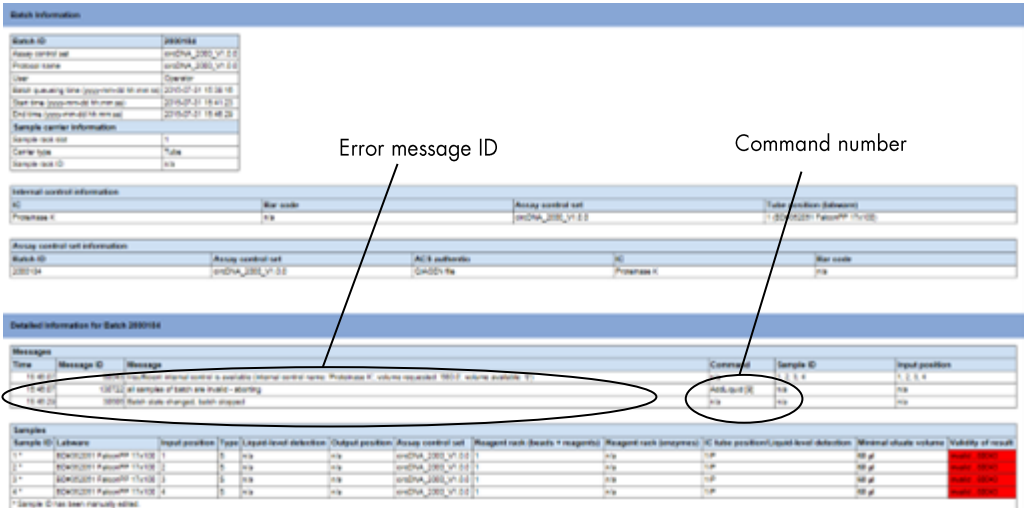

Figure 1. Result file.
6. The command number can be found in the result file (Figure 1, page 8). Locate the error message under **Messages**. Refer to the instruction list (page 9) and perform the instructions associated with the command number.
The error message will display a command number or an information message (Figure 1, page 8). If a command number is displayed, note the number in square